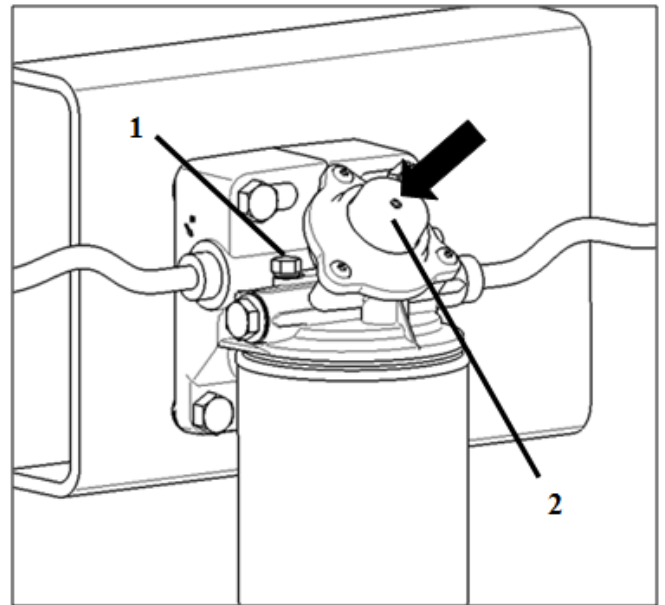

Fig. 6 Bleeding
- Open the bleed plug (Pos. 1, Fig. 6).
- Operate the hand pump (Pos.2, Fig. 6) to draw fuel.